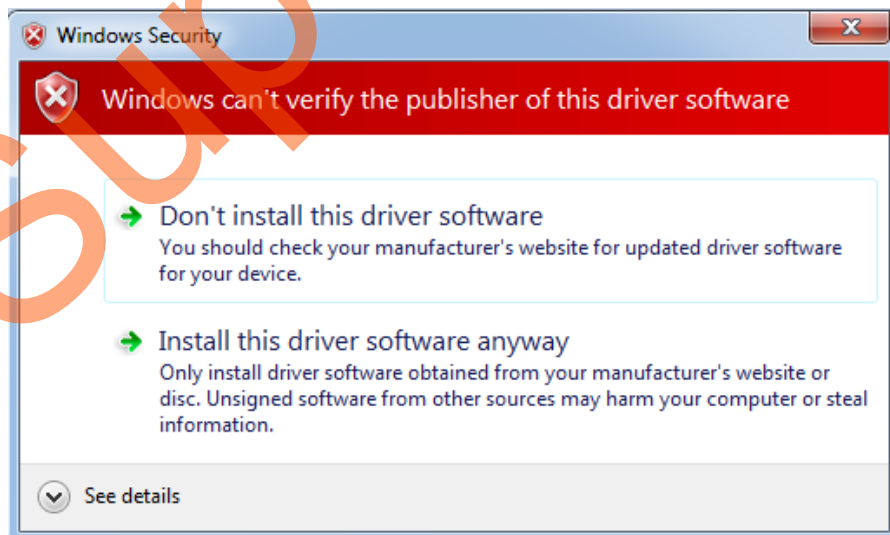

Figure 54 • Windows Security
4. Click **Install this driver software anyway** if the window appears as shown in Figure 54.